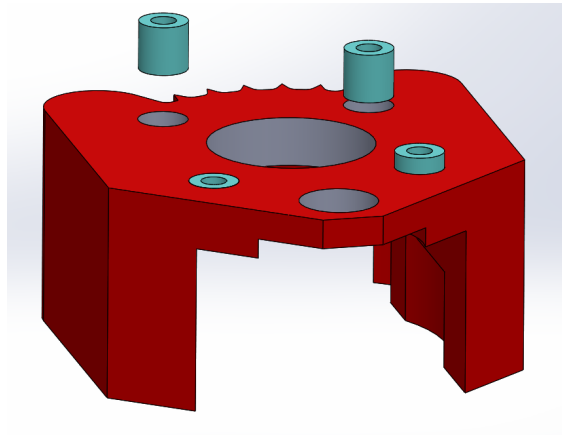

Figure 4: Shaft coupler installation
4. **Encoder Mount:** The size and tolerance of the holes will vary slightly based on different 3D printers and materials. Press the 0.25inch Spacers **T1** into the 3D printed encoder mount **S31**. If they do not fit easily, we have found tapping them with a small hammer can work. If the wholes are still too small, you can drill or file out the holes slightly until the spacers fit as shown in Figure 4.